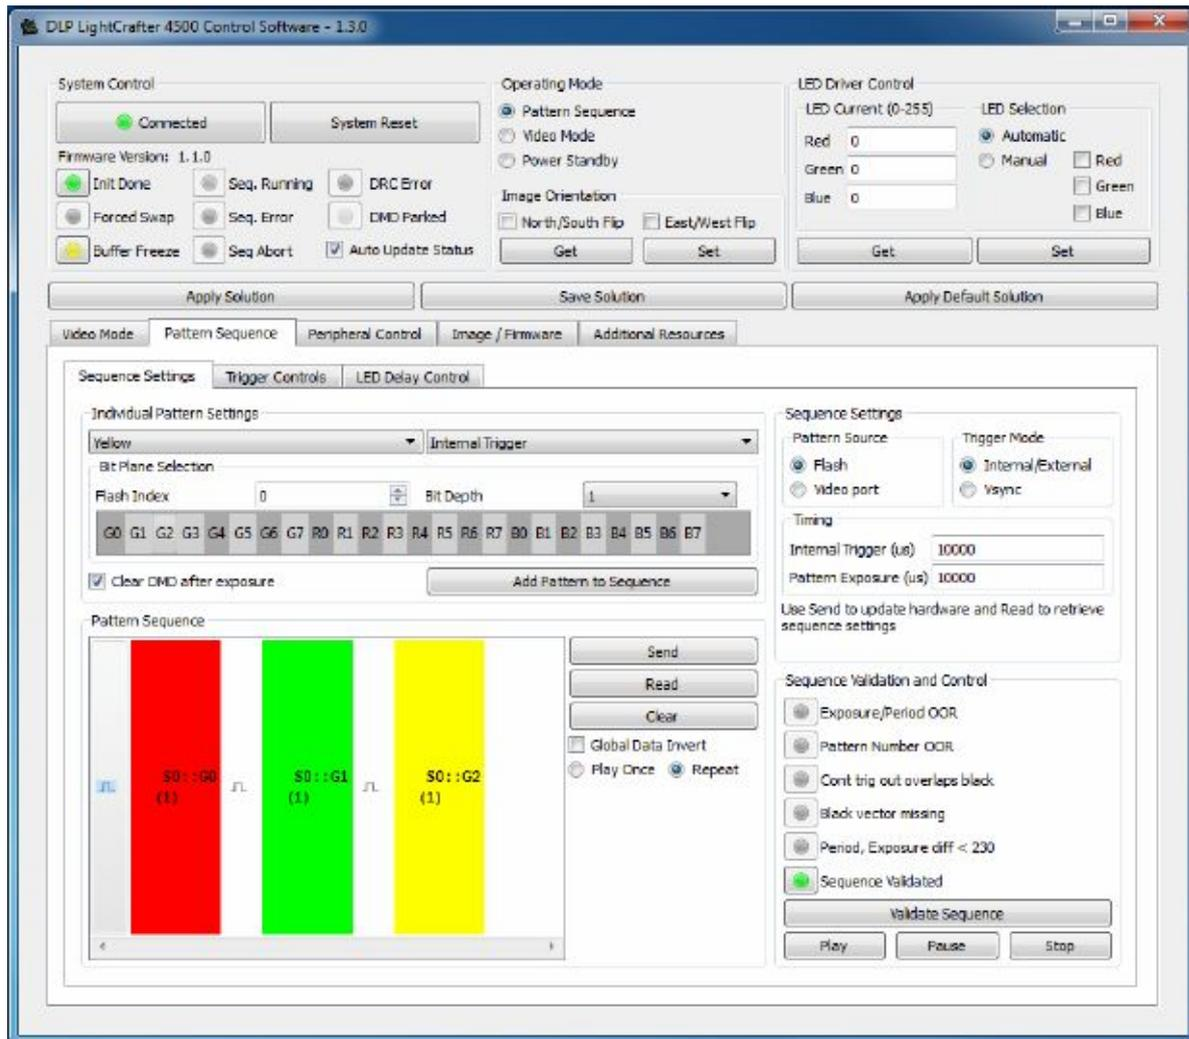

Figure 3-5. PRO4500 GUI – Pattern Sequence Mode
A pattern sequence is composed of several patterns loaded from flash memory or streamed through the 24-bit RGB video port. Each individual pattern can have a specific set of LEDs illuminating it, a particular bit-depth, and an internal or external trigger. The Sequence Settings subtab lets the user define and set all the Individual Pattern Settings. The Trigger Controls subtab and the LED Delay Control subtab set the trigger and LED enable edge timings, respectively. Figure 3-5 shows the PRO4500 GUI with the Pattern Sequence tab selected.
5. If the patterns sequence must be played once, set Play Once in Figure 3-5. This setting will play the number of patterns set in Trigger Controls subtab under "Trigger 2
The Pattern Sequence section shows the pattern sequence as a set of colored rectangles. The color corresponds to the LEDs used. The entries on the rectangles represent the image source, the bit-plane, and the bit-depth as follows: S0::G0 (1) indicates flash location 0, bit-plane = G0, bit-depth = 1. F2::G5 (3) indicates Frame 2, bit-plane = G5, bit-depth = 3. For example, in Figure 3-5, a pattern sequence of three patterns is displayed. Each pattern is triggered every 100 ms and exposed for 100 ms. The first pattern is a 1-bit green pattern using bit-plane G0 from flash location 0. The second pattern is a 1-bit blue pattern using bit-plane G1 from flash location 0. The third pattern is a 1-bit red pattern using bit-plane G2 from flash location 0.